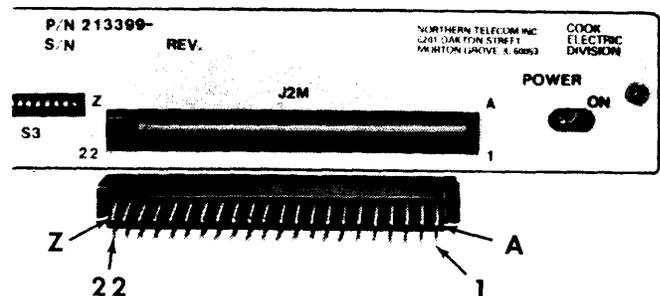

Fig. 4 - Position of 44-Pin Edge Connector for Installation on Multi-Channel Chassis
2.10 The 44-pin edge connector, packed with the Multi-Channel Chassis, is to be installed in the rectangular opening labeled "J2M" on the rear panel of the M.C. Chassis (see figure 4). Edge connector pin numbers, molded into the plastic base next to the pins, identify the two rows of 22 pins each. One row is labeled (from right to left) "A" through "Z", the other row labeled (from right to left) "1" through "22". The edge connector must be positioned with the "A" through "Z" row at the top, the "1" through "22" row at the bottom, as illustrated, so that the proper pins line up with the letters "A" and "Z" and the numbers "1" and "22" printed next to the "J2M" opening on the chassis rear panel.